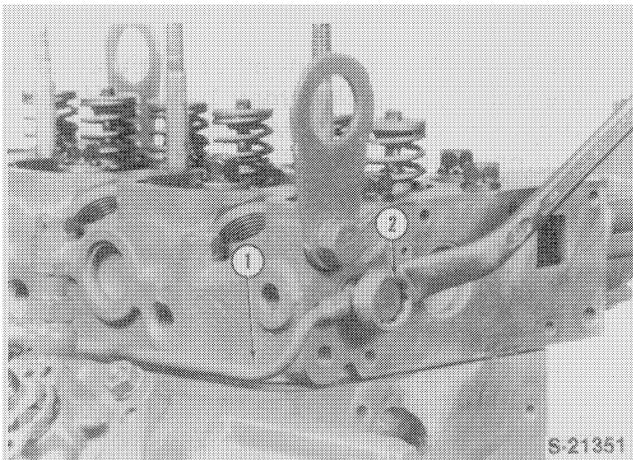

FIGURE 1-52
10. Install the oil transfer tube banjo bolt, 2, Figure 1-52, and tighten to the specified torque.